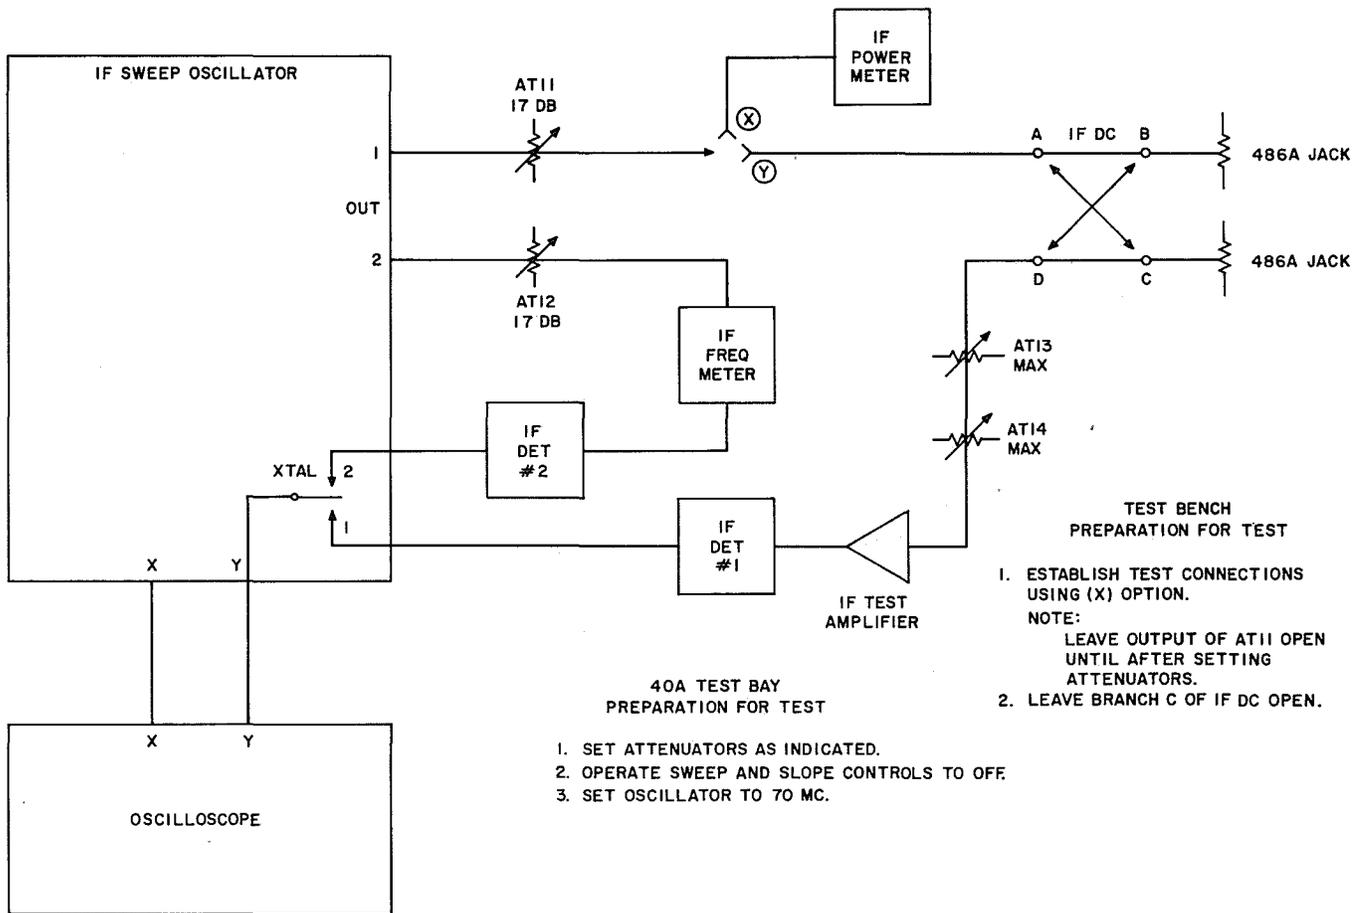
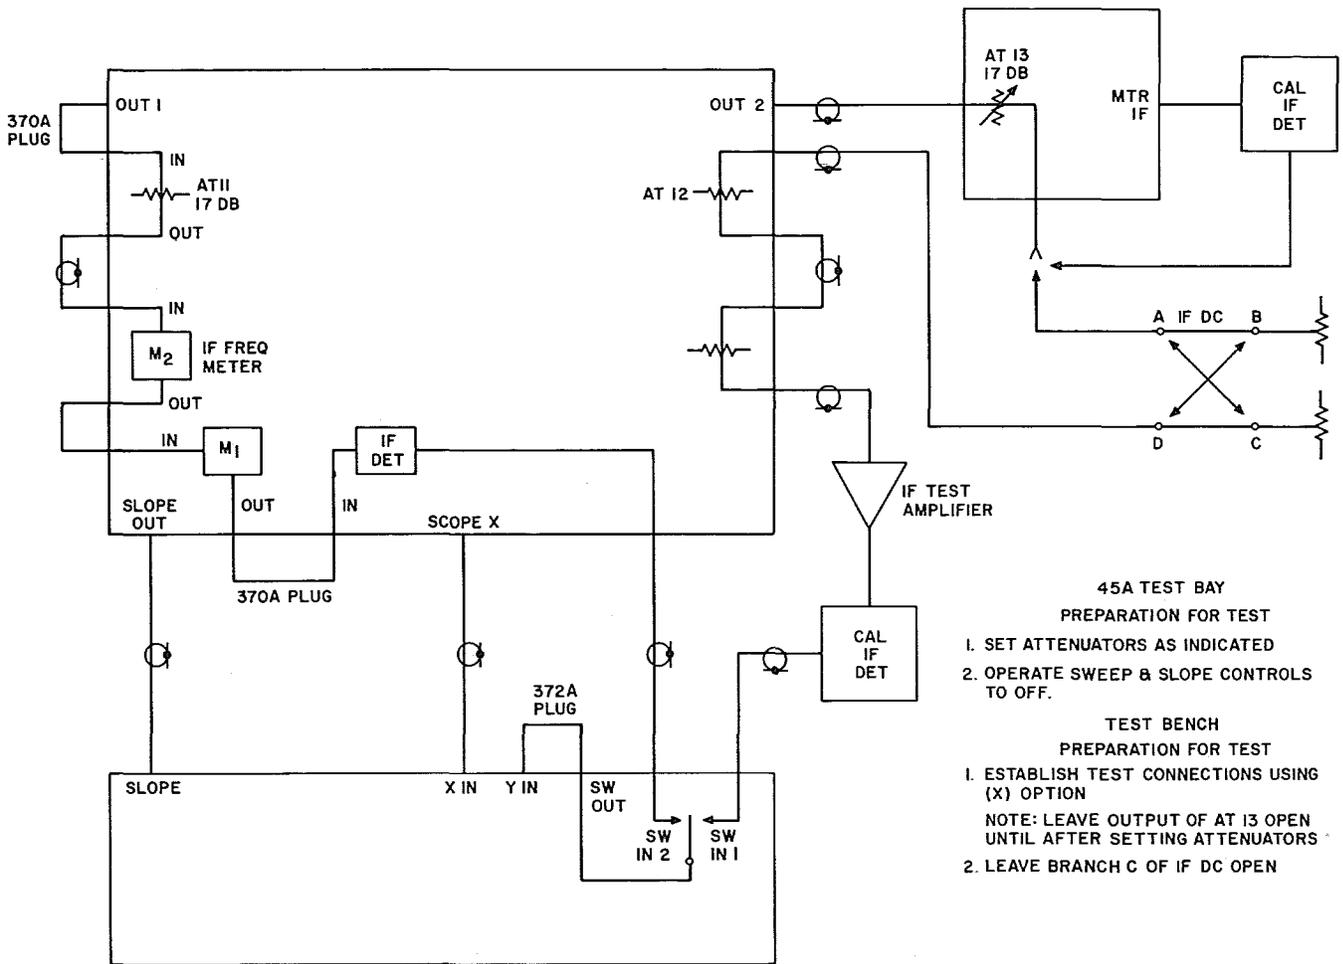

Fig. 11 — Test Arrangement for Return Loss Measurement of the 223-Type Switch Using 40A Test Bay
Fig. 12 — Test Arrangement for Return Loss Measurement of the 223-Type Switch Using 45A Test Bay
- (a) Prepare the test equipment and the test bench for tests as shown in Fig. 11 and Fig. 12.
40A TEST BAY (Fig. 11)
45A TEST BAY (Fig. 12)